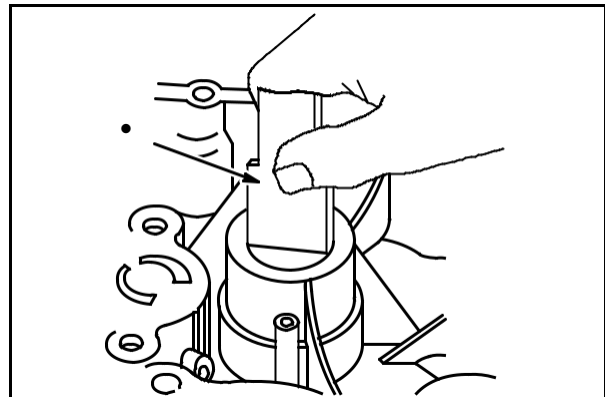

Fig. 18
Replace the sump if the PTO bearing is scored or if Plug Gauge **#19380** (1), enters bearing. Try gauge at several locations in bearing, **Fig. 18**.